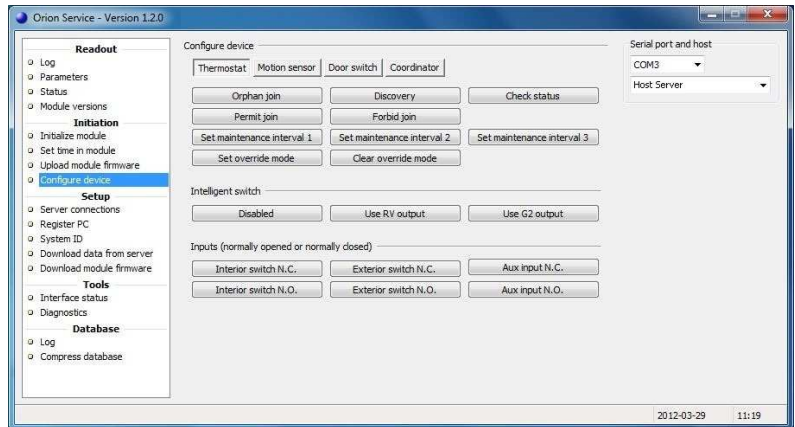

Figure 26
2. Click the **Permit Join** button in the **Configure device** section of Orion Service; see Figure 26.